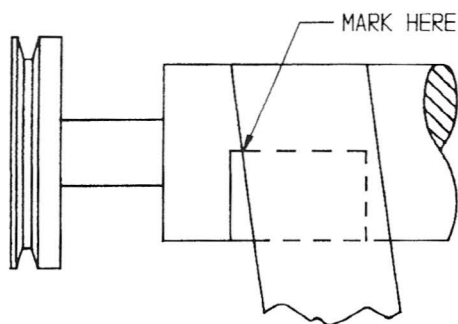

Fig. A-1
4. Wrap the sandpaper around the head one time and mark where it meets the end (see fig. A-1). That should be 12-1/8" for sandpaper and 13" for velcro tape.